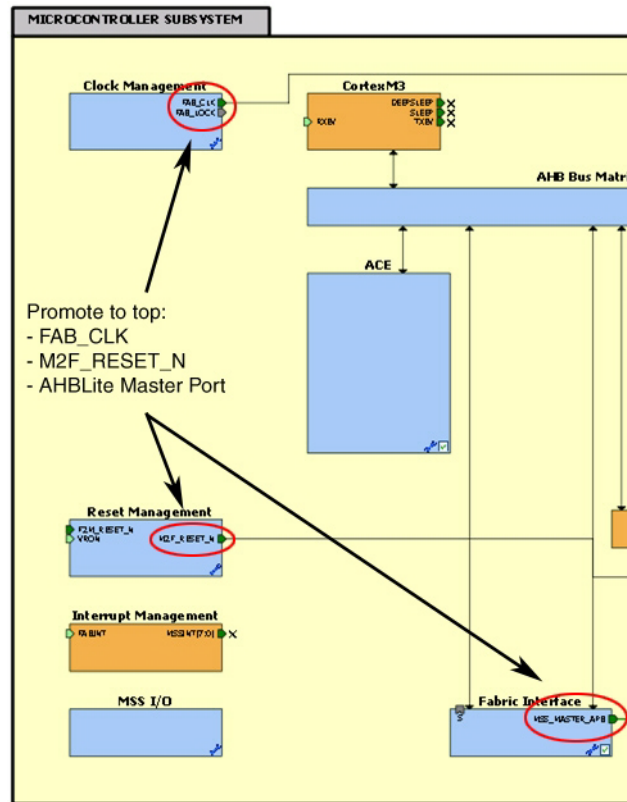

Figure 1-3 · Promote FAB\_CLK, M2F\_RESET\_N and AHBLite Master Port
**Step 3. Promote the Fabric Interface AHBLite Bus Interface (BIF) master port** (as shown in Figure 1-3).
**Step 4. Promote FAB\_CLK to make it a port** (as shown in Figure 1-3).